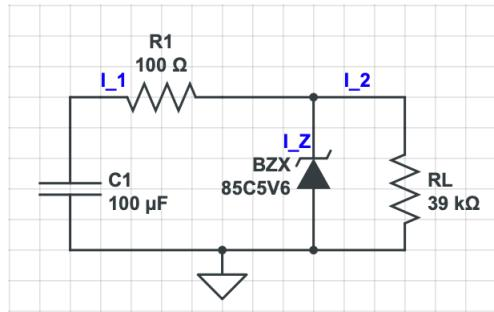

Figure 26: Circuit
- Let's consider the circuit shown in Figure 26. Let  $I_1$ ,  $I_Z$ , and  $I_2$  be the current through  $R_1$ , the diode, and  $R_L$  respectively.